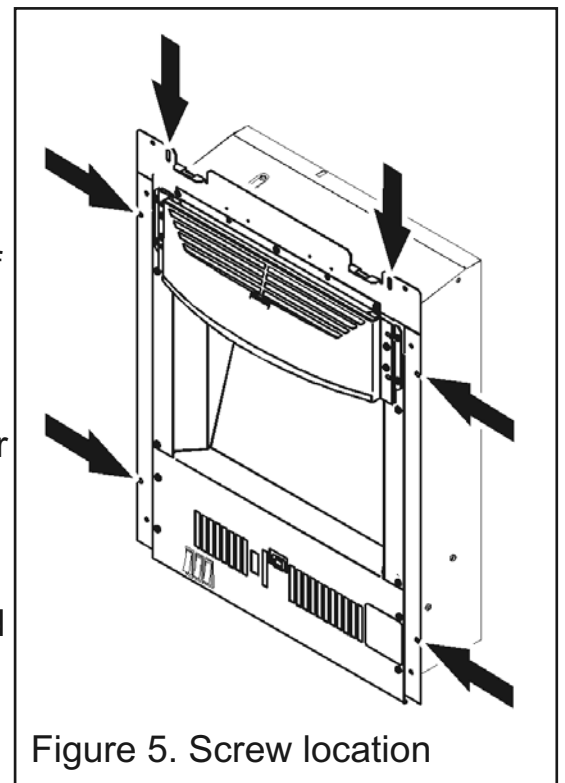

Figure 5. Screw location
2. There are two slotted holes in the top of the heater and four holes in the side flanges (See figure 5). We recommend the use of two upper holes and two lower holes. Mark through the required holes so that their position is clear when the heater is removed.